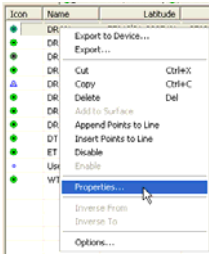

Figure 5-57. View Point Properties
1. Right-click the desired point and click **Properties** on the pop-up menu (Figure 5-57).